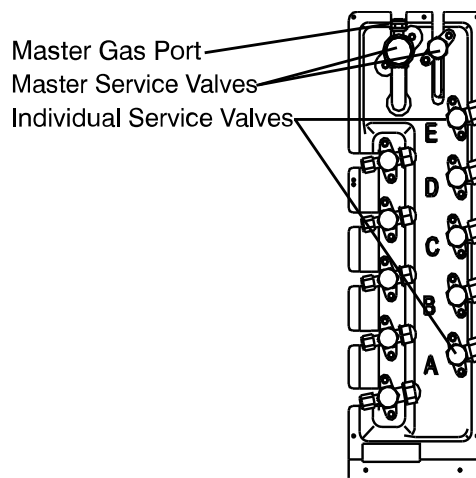
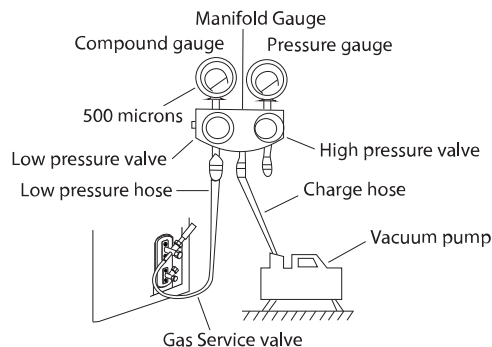

Fig. 25 —Service Valves Sizes 24-48
Fig. 26 —Manifold Gauge
3. For size 18, connect the manifold gauge (low side hose) to the Individual Service Valve (5/16 port, use the adapter to fit a 1/4in hose) to evacuate each of the circuits. For sizes 24-48, connect the manifold gauge (low side hose) to the Master service valve (5/16 port, use the adapter to fit a 1/4in. hose) to evacuate all circuits at the same time (see Fig. 26).
5. Open (fully) the low pressure valve of the manifold gauge (see Fig. 26 for 18K. Fig. 25 for sizes 24K-48K).